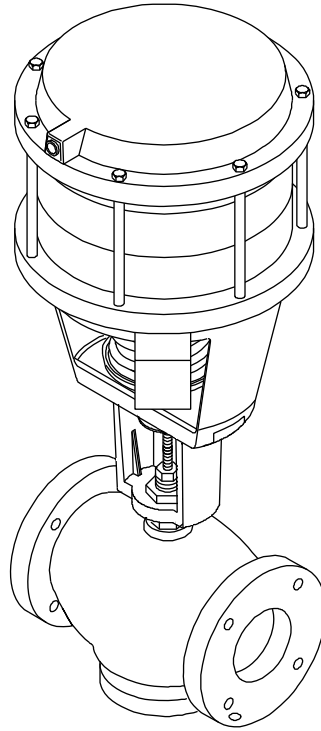
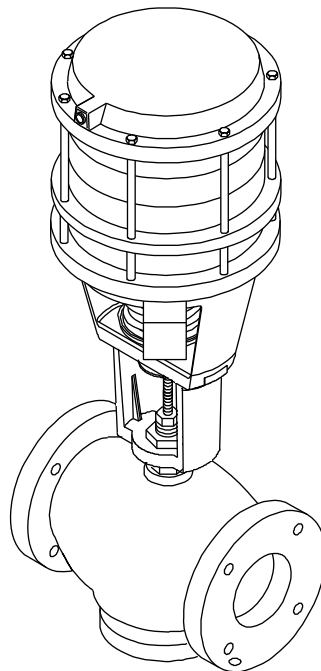

Figure-2 MK-8800 Series Actuator Valve Assembly.
Figure-3 MK-8900 Series Actuator Valve Assembly.
17. Linkage assembly is complete. Refer to Figure-2 and Figure-3.
19. Linkage assembly is complete. Refer to Figure-2 and Figure-3.